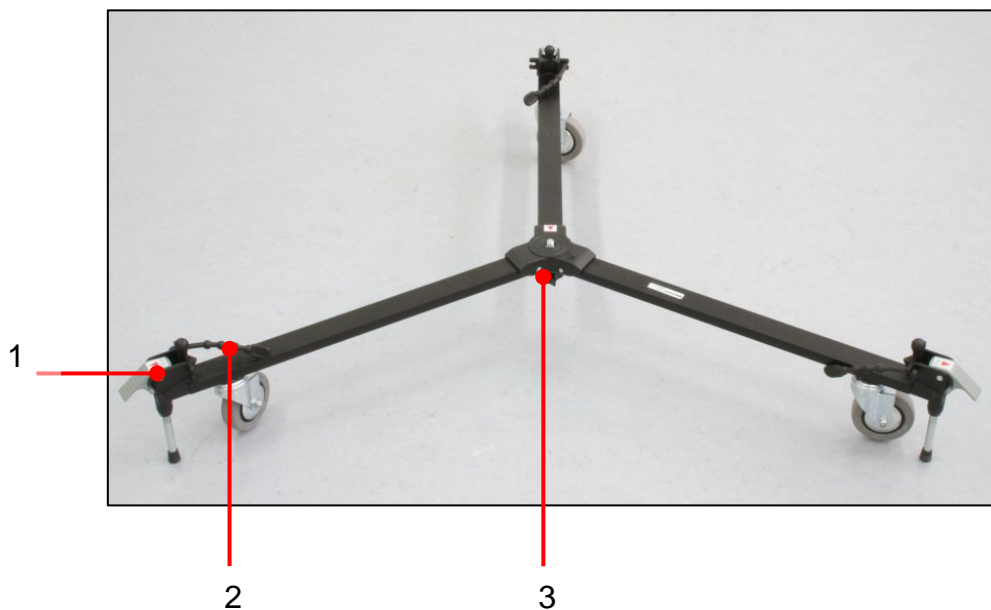

Fig. 26: Tripod roller
2. Open up tripod roller and lock into place with clamping screw (see Fig. 26, pos. 3). Then press down retainer (see Fig. 26, pos. 1).
3. Fold out tripod legs, position into the vertex of the tripod roller and secure with the rubber lugs (see Fig. 26, pos. 2).